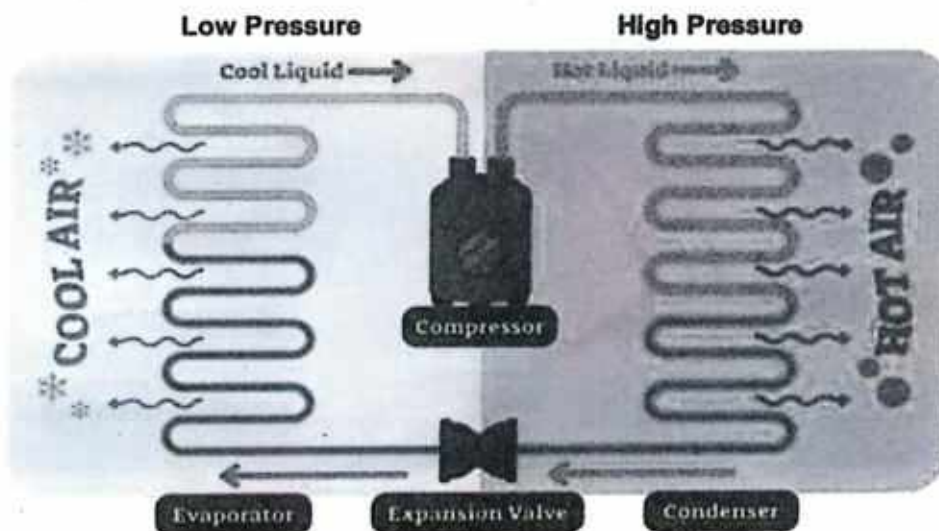

Fig. 7.17: Condensation in refrigerator
- d. The compressor in refrigerator also uses the process of condensation in its working. The condenser is placed on the back side of the refrigerator. The refrigerant is cooled in the condenser, then due to condensation process the gas turns into liquid. Then this cooled liquefied gas is sent into the inner compartment where it gets heat from inside the refrigerator and again condenser cools it down. The process is shown in figure 7.17.